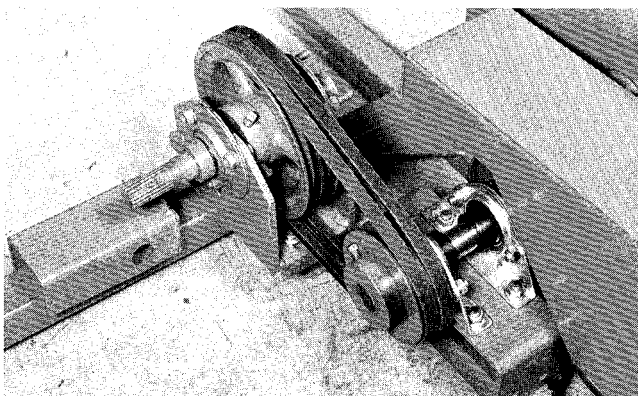

Figure 3
3. Loosely mount pulley and bracket assembly to left adapter. Install belts on pulleys and tighten pulley bracket while tightening belts (Fig. 3).